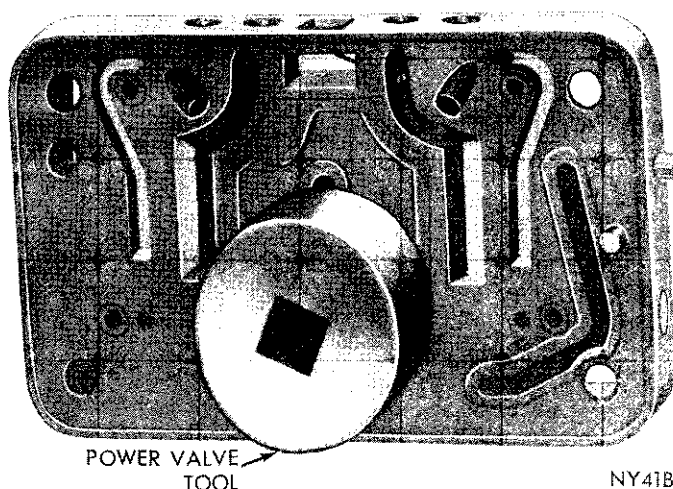

Fig. 7—Removing or Installing Power Valve
- (1) Using Tool C-3747, remove power valve assembly from primary metering body (Fig. 7).
(1) Install idle mixture screws and springs in metering body. (The tapered portion must be straight and smooth. If tapered portion is grooved or ridged, a new idle mixture screw should be installed to insure having correct idle mixture control.) **DO NOT USE A SCREW DRIVER.** Turn screws lightly against their seats with fingers. Back off the number of turns counted at disassembly. Install new plastic caps with tabs against stop.
(2) Slide a new gasket over power valve and install, using Tool C-3747. Tighten securely (Fig. 7).